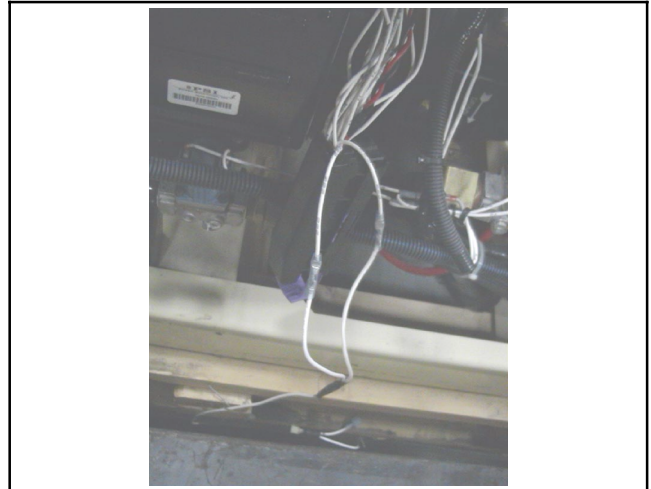

Figure 5 View of Lead #223 Stripped and Crimp Connected to GM64331 (Harness)
7. Strip lead #223 from the P10 plug 3/8 in. and crimp into the connector on the new harness (GM64331). See Figure 5.